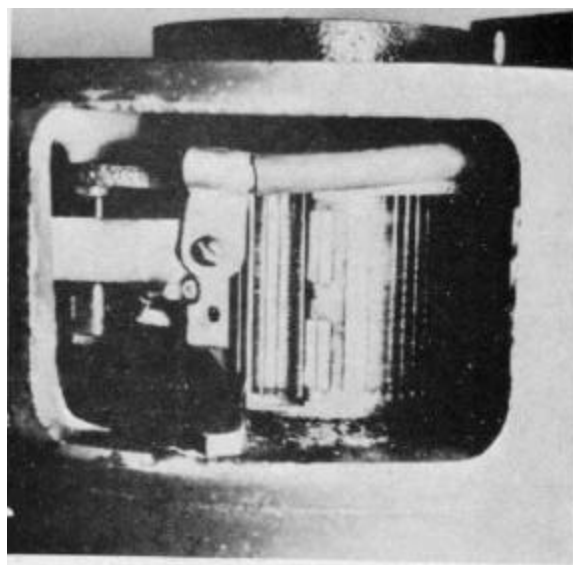

Figure 5-123
8. Inspect the commutator for excessive wear, cracks, or burning. Inspect the mica bar to bar insulation. When the commutator wear results in flush or protruding mica, the mica should be undercut to a depth equal to the thickness of the mica or about $.025$ ". The undercut slot should be kept free and clean of dirt (Fig. 5-123).